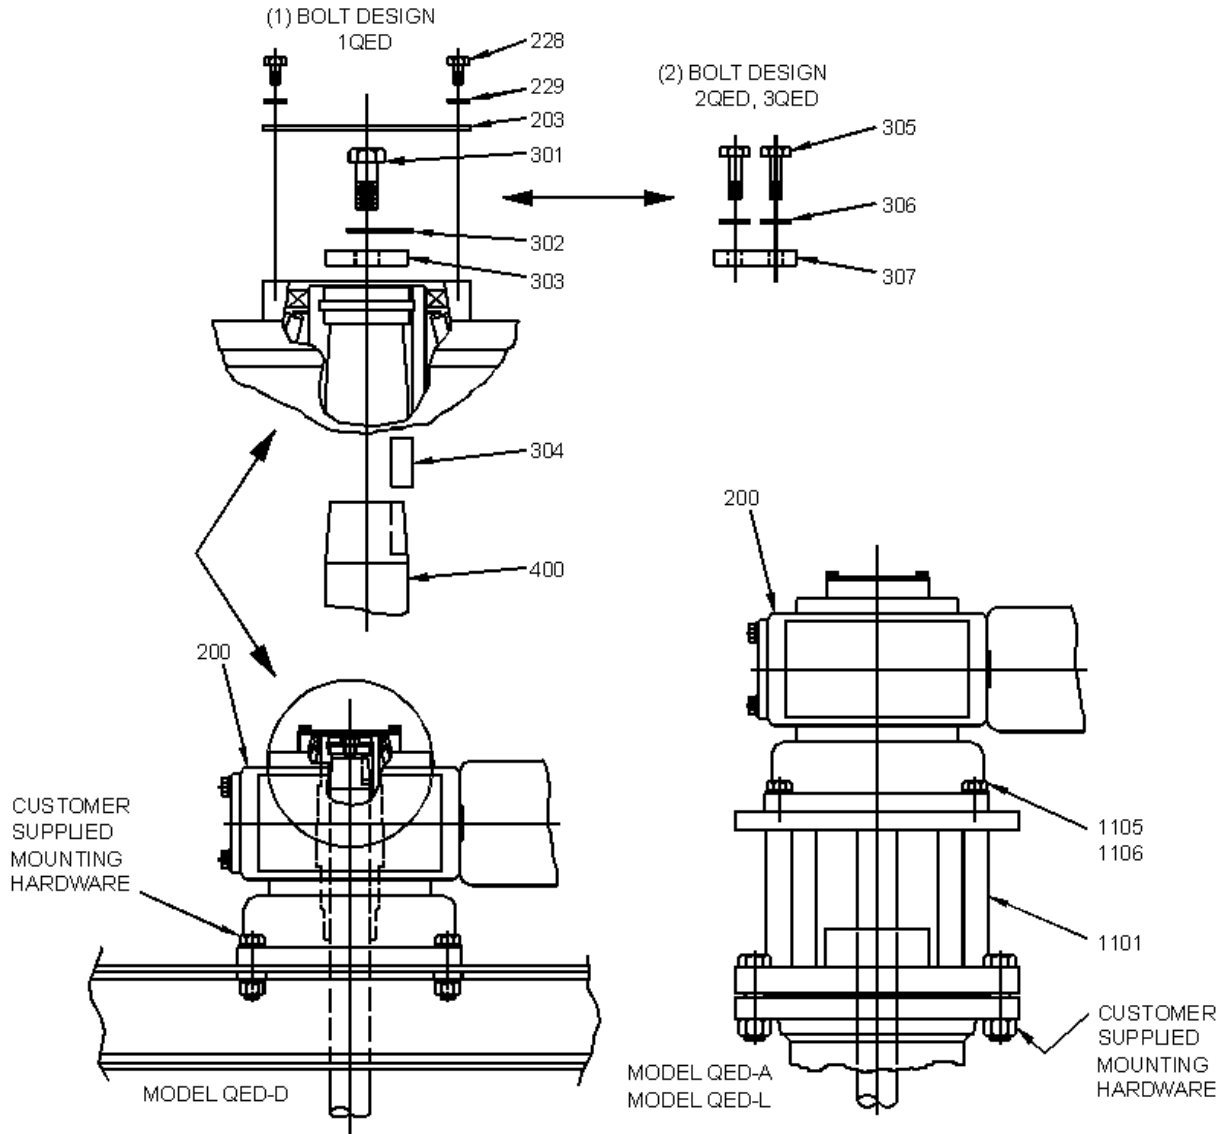

Figure 6: Agitator Extension Shaft Installation
5. Mount the agitator onto the pedestal using bolts [1105] and lockwashers [1106]. *Do not fully tighten bolts at this time.* Reference Figure 6, page 17.
10. Shaft bolt installation, reference Figure 6, next page: